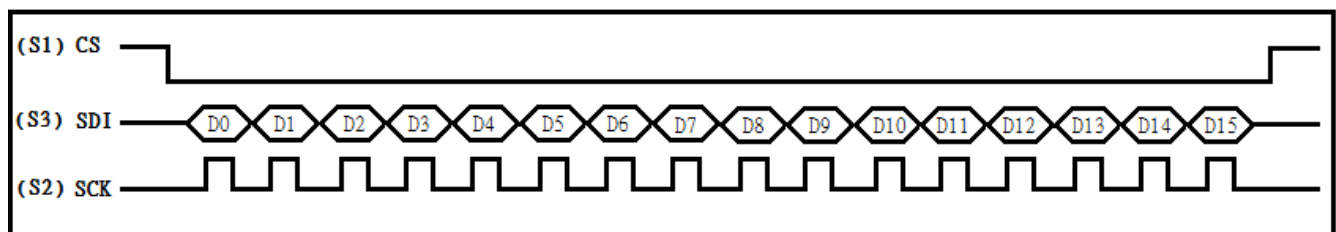

Fig. 8 SPI command timing
- Command timing reference Fig. 8 SPI command timing.
- a. Command timing reference Fig. 8 SPI command timing.
- a. command timing reference Fig. 8 SPI command timing.